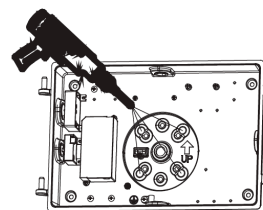

Fig. 2.3
3. Drill mounting holes with an electric drill and insert the anchor into the wall. (Fig. 2.3)